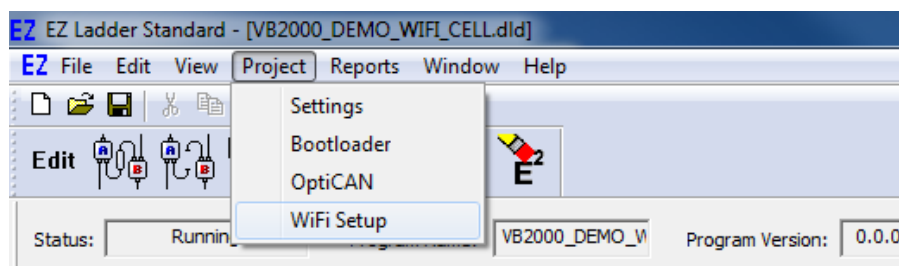

Figure 2-45 - Access WiFi Setup
4. From the menu at the top, select **PROJECT** then select **WIFI SETUP**. Refer to Figure 2-45.
Click the **PROPERTIES** button. The **HEC-P5000 Properties** Window will open. Under the Devices, *Internal* section, if Modbus Master or Slave is installed, it will be listed. Click the **ADD DEVICE** button. This will open the **PLCHIP-PXX Devices** window. See Figure 2-45. Select **Modbus Master** or **Modbus Slave** from the choices. Click **OK**. The Modbus Slave or Modbus Master Properties window will open depending on the type of Modbus port you selected. See Figure 2-46.